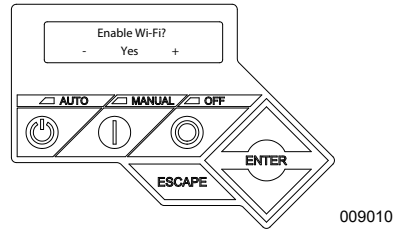

Figure 3-2. Enable/Disable Wi-Fi
2. See Figure 3-2. Use arrow keys to toggle between "Yes" and "No." Select "No" and press ENTER.